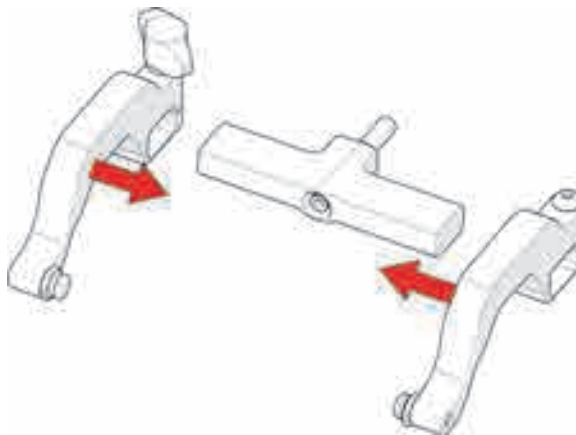

Figure 4-91 Place arms back onto yoke
6. Place the probe holder arms on the yoke, and tighten the arm clamp screw and probe holder adjustment knob (see Figure 4-91 on page 158).